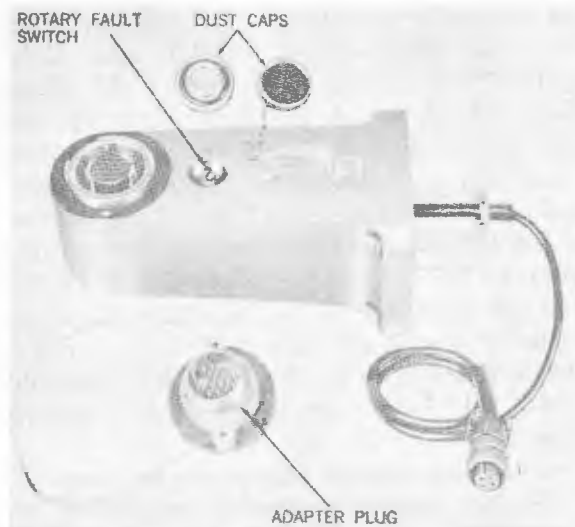

Figure 11-58.—Weapon Connector Mk 22 Mod 0 and Adapter Plug.
**WEAPON CONNECTOR.** Practice Weapon Connector Mk 22 Mod 0, figure 11-58, provides access to the electrical circuits in the practice bomb.
the connector receptacle. The adapter plug has two positions, LOCKED and UNLOCKED as engraved on top of the plug, figure 11-58, which are determined by the position of the stop pin in the slot between these indicated positions. The adapter plug must be in the UNLOCKED position before it can be installed in the weapon connector. Turning the adapter plug clockwise locks the weapon connector by means of the retaining balls. The stop pin halts the rotation of the sleeve when it is in the LOCKED position and a set screw secures the sleeve in that position.
**FAULT SWITCH.** The fault switch is located in the connector housing, figure 11-58, and is protected by a dust cap when the switch is not in use. It is a rotary, five-position switch, operated by turning the slotted rotor with a screwdriver. The fault switch simulates defects in the service bomb by opening certain circuits in the practice bomb.